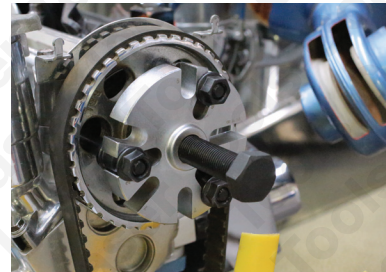

Fig. 1
3. The puller bridge disc is clearly etched with numbers. These numbers indicate which slots to use according to the number of slots or holes that are available for the puller to be attached to. See Fig. 1.